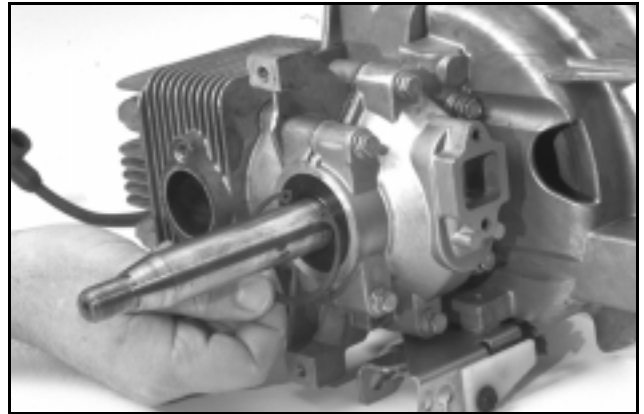

Figure 70
1. Remove the six crankcase cap screws, and separate the halves using a screwdriver. (See Figure 70.) Be careful not to damage the sealing surfaces.